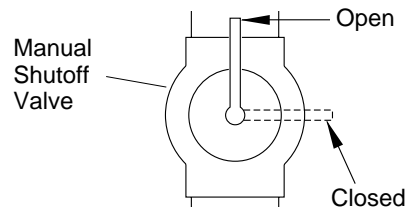

Figure 28 - Manual Shutoff Valve
1. Close manual shutoff valve (see Figure 28).
1. Open manual shutoff valve (see Figure 28).